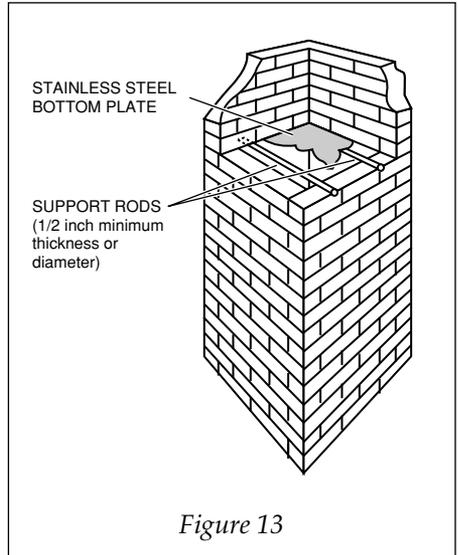

Figure 13
7. Place the Flex tee and cover assembly into the opened flue hole and determine the location of the support rods. The support rods should be positioned slightly narrower (about one inch on each side) than the diameter of the liner for proper support, so the tee cover can rest on them. Remove the Flex tee and cover assembly. Drill the two holes through the mortar joints in front of you and proceed to drill holes from inside of the chimney about one inch deep into the bricks on the opposite side. Mortar the rods in place (figure 13).